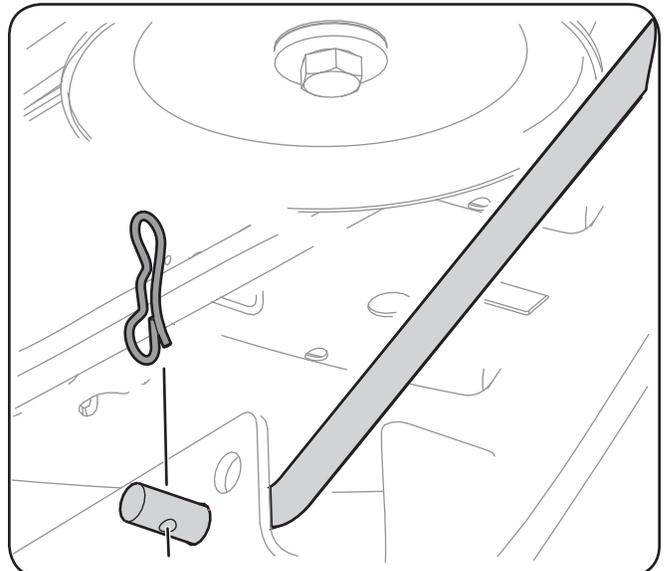

Figure 7-5
- Pull the bow-tie pin out of the front deck lift rod securing it to the deck. See Figure 7-5. Slide the deck lift rod out of the front hanger bracket.